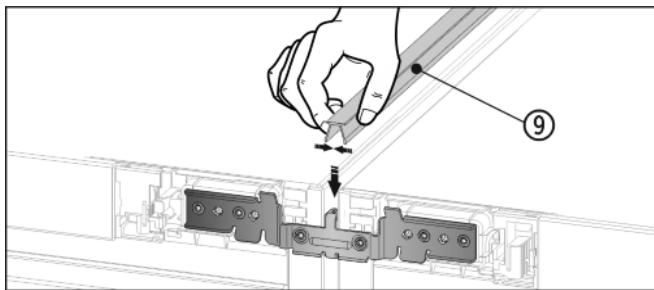

Fig. 13
- ▶ On the top press the short cover strip *Fig. 13* (9) into the horizontal gap.